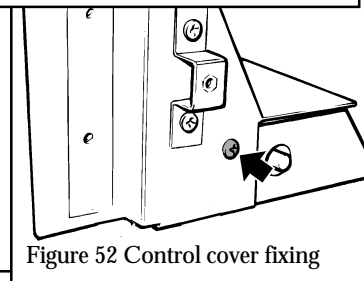

Figure 52 Control cover fixing
16.9.5 Detach the control unit cover by removing one screw (see figure 52).